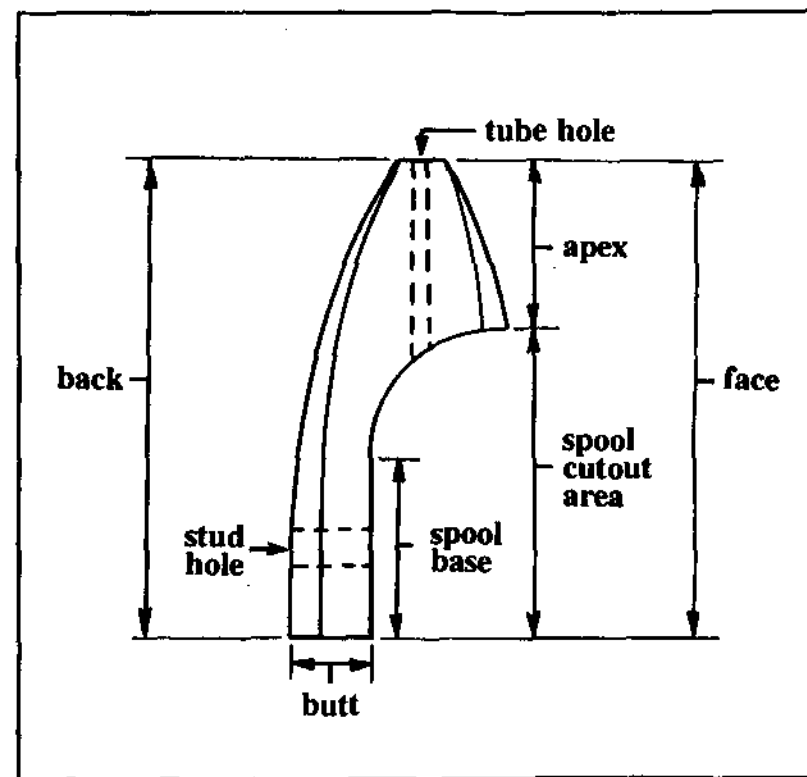

Figure 1. Diagram of the blank (right side) showing regions discussed in the instructions.
**apex** the apical portion of the blank (see Fig. 1).
**back** the back profile of the blank (opposite the face) through which the stud hole is drilled (see Fig. 1).
**butt** the rounded end of the blank (as viewed from the face or back) having a slightly greater diameter than the spool (see Fig. 1).
**face** the face profile of the blank (opposite the back) (see Fig. 1).
**spool base** the flattened portion of the spool cutout area of the blank where the spool will be located (see Fig. 1).
**spool cutout area** that portion of the face that includes the flattened spool base and the concave curvature; the tube hole is drilled through the apex into the spool cutout area (see Fig. 1).
**stud hole** the hole drilled through the back into the spool base area for the purpose of mounting the spool assembly. Initially this hole is threaded with a 10-24 tap (to hold the blank during cutting and disk sanding operations), but is later slightly reamed to accept the stud (see Fig. 1).
**tube hole** a hole drilled through the apex of the blank into the spool cutout area; accepts the tube (see Fig. 1).